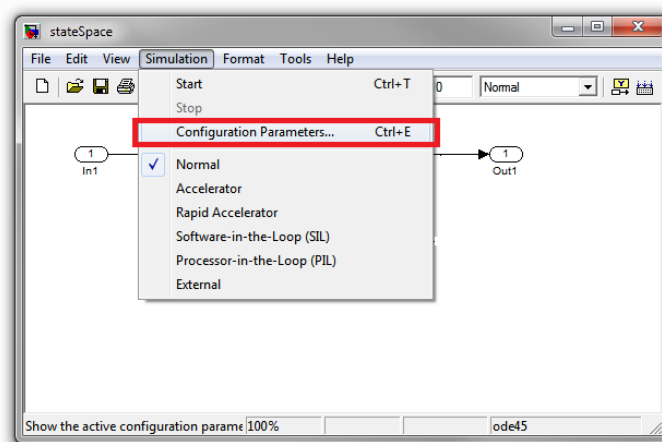

Figure 5: Simulink configuration parameters that you should not modify
4. **In1**, **Out1** and **csfunc** blocks must remain the way they are, with the settings they have. Also, do not modify the **Configuration Parameters** as seen in Figure 5 without talking to the teaching assistant.